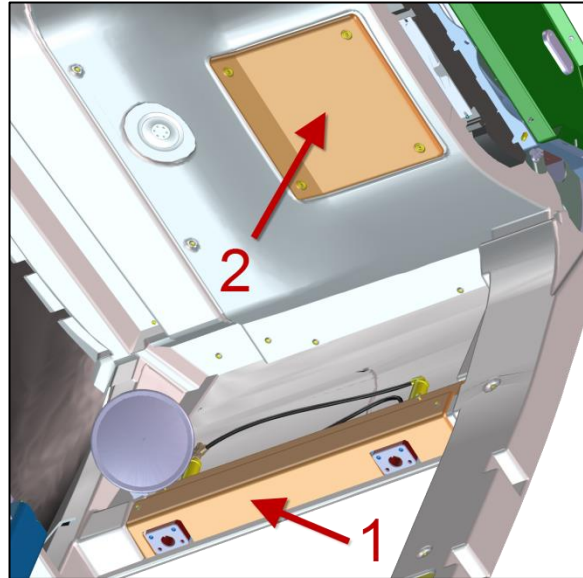

Figure 3
3. Remove entrance door upper moulding (item 1, Figure 3). This part will be replaced by the new moulding #3210118. Keep screws for the installation of the new moulding.
4. Remove front RH roof access panel (item 2, Figure 3).